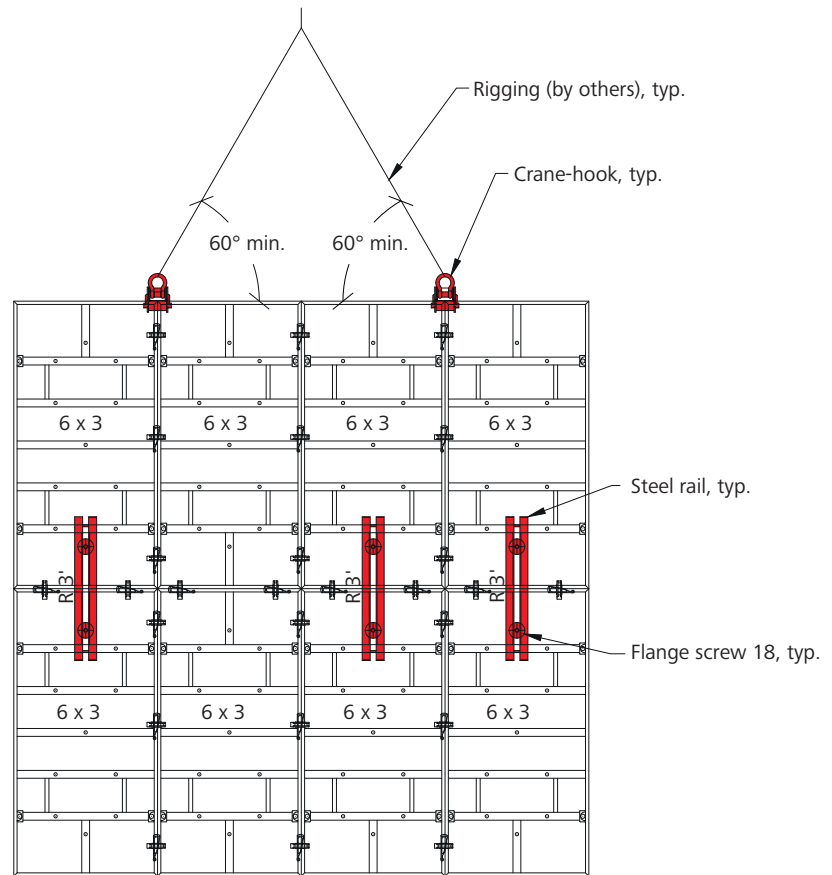

Fig. 46.1 Typical gang form
Each crane hook must be attached at a panel joint (Fig. 46.1) or above a stiffener or panel joint when the top panels are horizontal. The number and location of crane hooks and the rigging arrangement must be established by the user so that no individual component is overloaded. Spreader beams with load equalizers are recommended for all but simple two-point lifts.
2. Gangs up to 13' high may use 3' long rails on vertical panels with (1) flange screw on each side of the panel joint connected to the threaded hole in the vertical end cross member of the panel (Fig. 46.1).